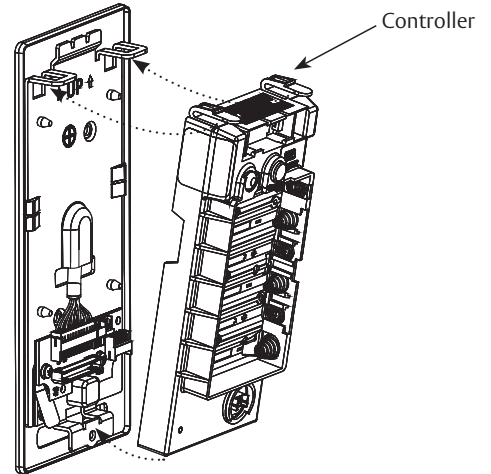

Fig. 24
- k. Secure 24-pin card reader connector. (Fig. 24)
- k. Secure mounting assembly while ensuring proper alignment of outside reader and tighten two (2) through-bolts on inside of door to secure reader. (Figure 24)
- a. Insert bottom tab of controller (make sure path is clear) into slot on mounting plate. (Fig. 24)